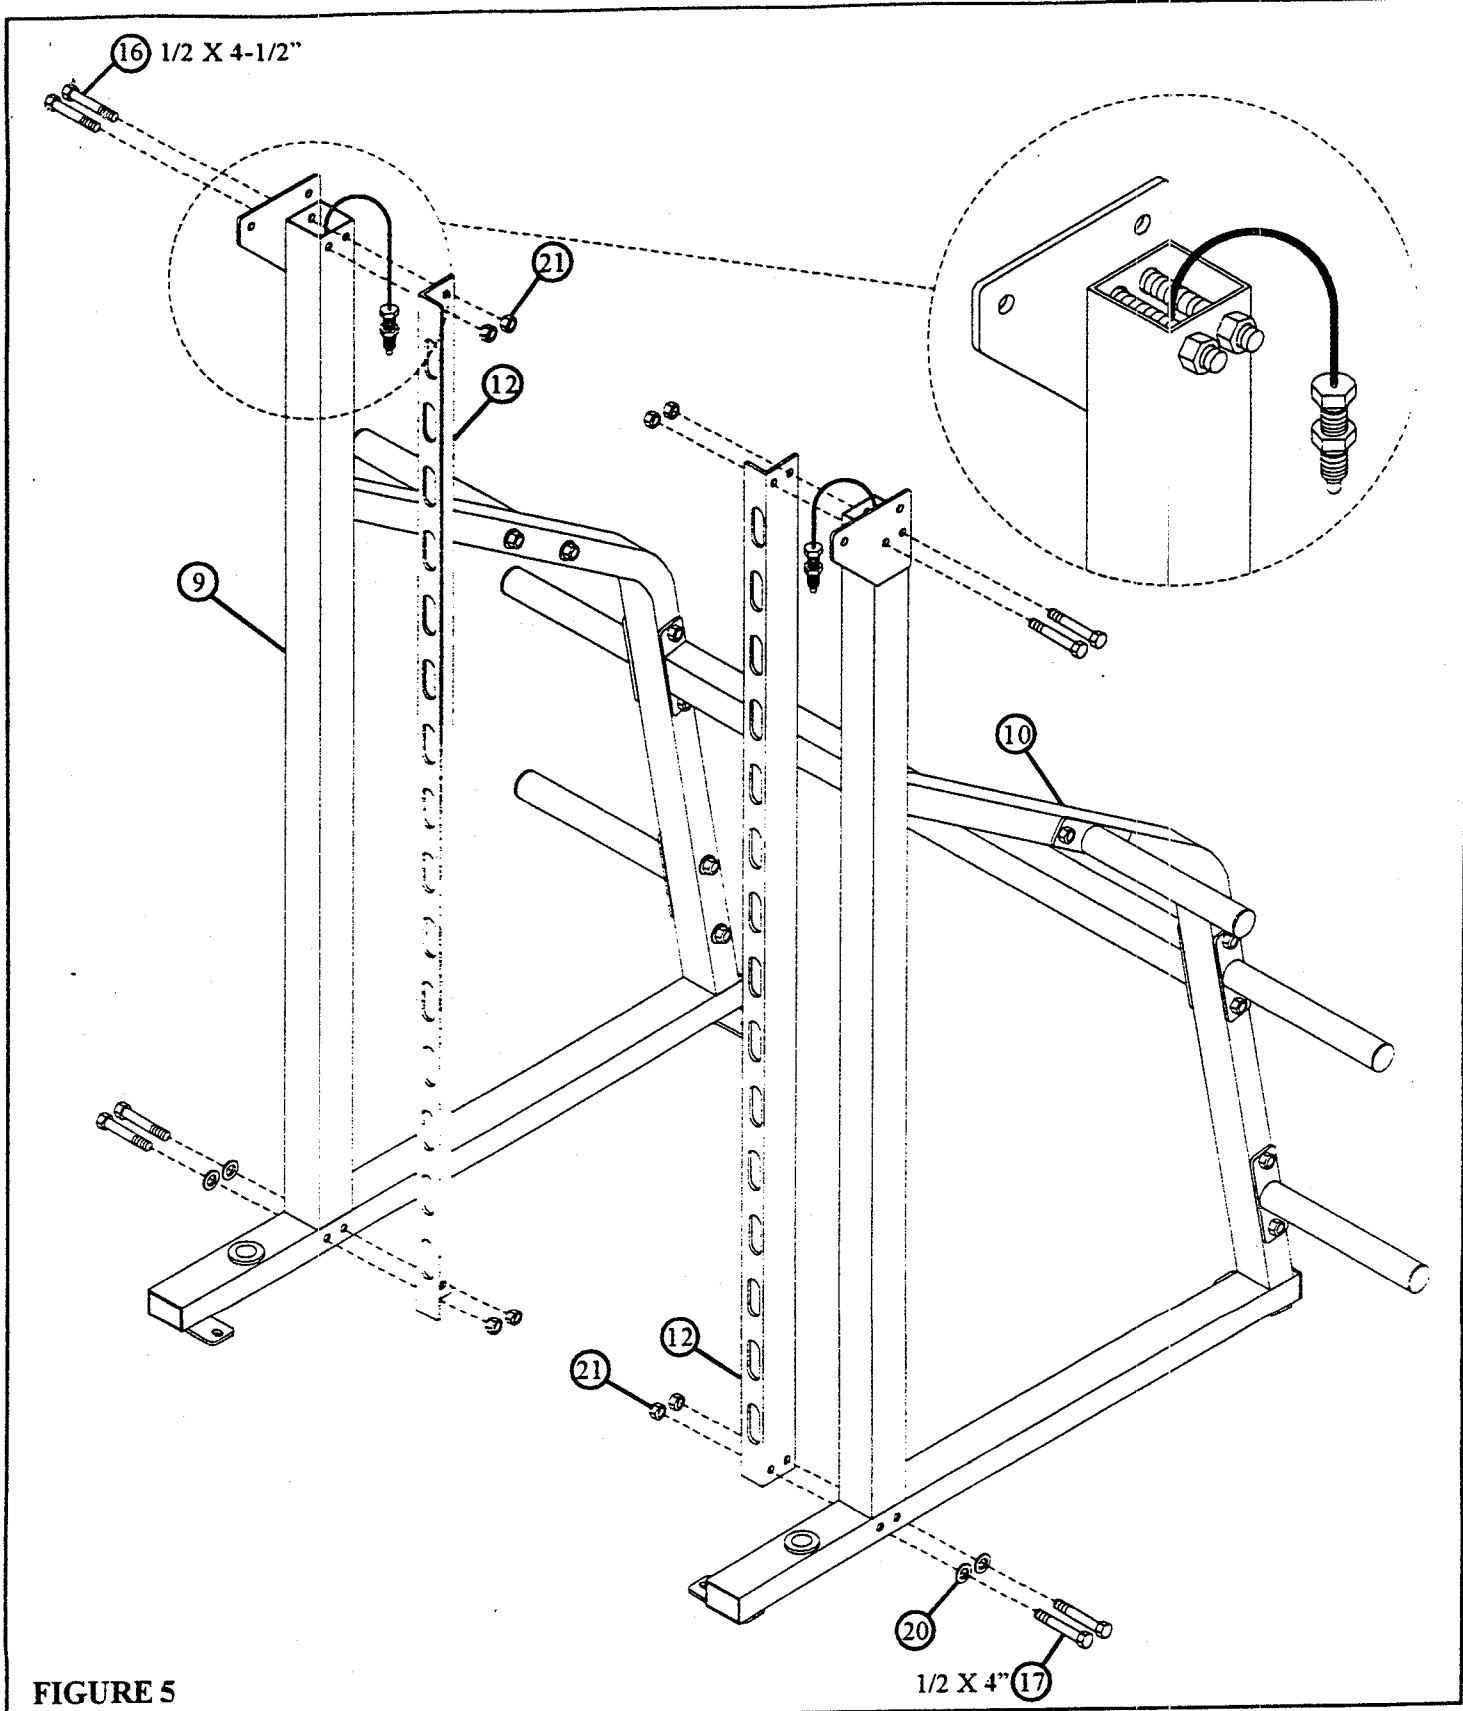

FIGURE 5
- LOOSELY assemble two CHROME ANGLES (12) to the top of the LEFT & RIGHT UPRIGHTS (9 & 10) using four 1/2 X 4-1/2" BOLTS (16), and four 1/2" LOCK NUTS (21) as shown in FIGURE 5. (NOTE: MAKE SURE CABLE IS BETWEEN THE TWO BOLTS.)
- LOOSELY assemble the CHROME ANGLES (12) to the bottom of the LEFT & RIGHT UPRIGHTS (9 & 10) using four 1/2 X 4" BOLTS (17), four 1/2" WASHERS (20), and four 1/2" LOCK NUTS (21) as shown in FIGURE 5.